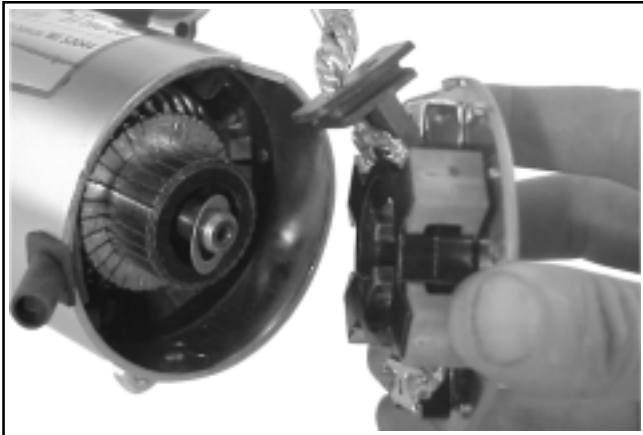

Figure 8-16. Removing Thru Bolts.
4. Remove the two thru (larger) bolts. See Figure 8-16.